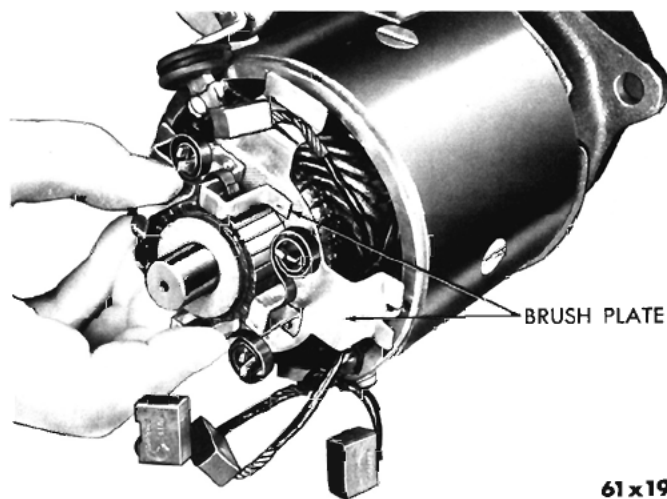

Fig. 2—Removing the Brush Ring
- (2) Remove the thrust washers from the armature shaft.
- (3) Lift the brush holder springs and remove the brushes from the brush holders.
- (4) Remove the brush plate (Fig. 2).